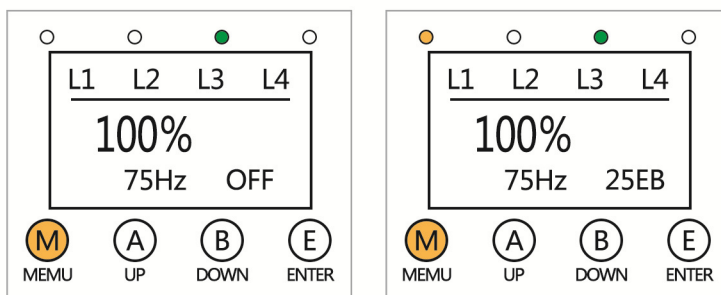

Fig.2 LCD display
When power on, the EB shows as the picture of Fig.2. After startup, the EB is locked within 3 minutes, and all operations are invalid
5) Data shortcut: press "E" in the LCD main screen (Fig.2) to go to check the current working data; press "A" and "B" scroll to check working data. Press "E" scroll up and down, and back to main menu.
Fine Tuning for 1000Hz frequency: press "A" on Fig 2 to go to "1000Hz" Fine Tuning interface. Adjust Dimming knob to adjust frequency between 800-1000HZ. Press Button B to back to main menu.